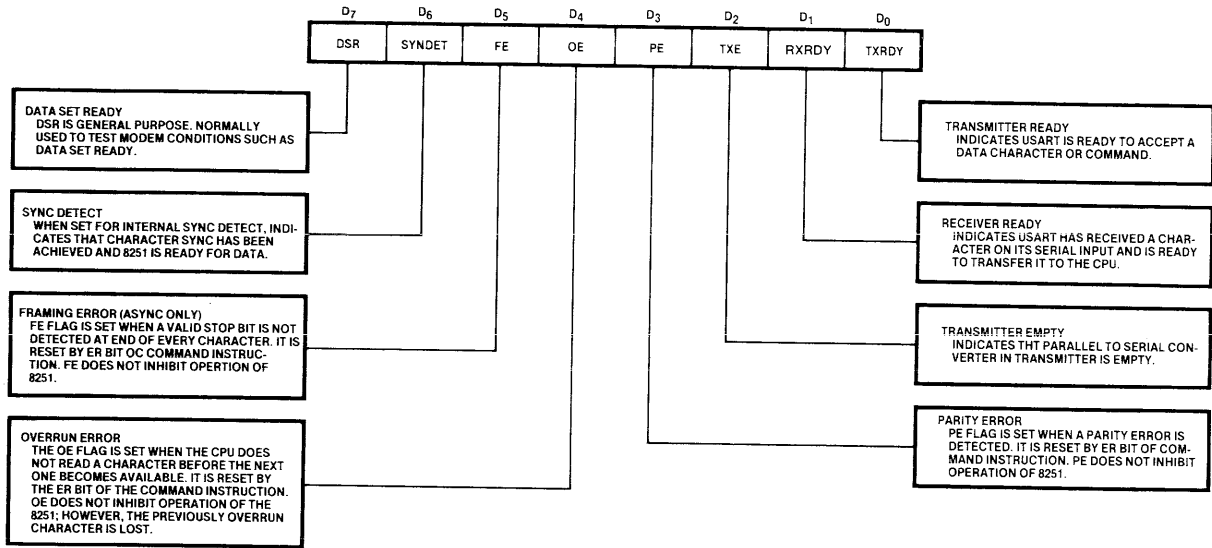

Figure 3-21. USART Status Read Format
**3-57. STATUS READ.** The 8085A can determine the status of a serial I/O port by issuing an I/O Read Command to the upper address of the appropriate USART chip. The format of the status word is shown in figure 3-21. A typical status read subroutine for Port 0 is given in table 3-26.